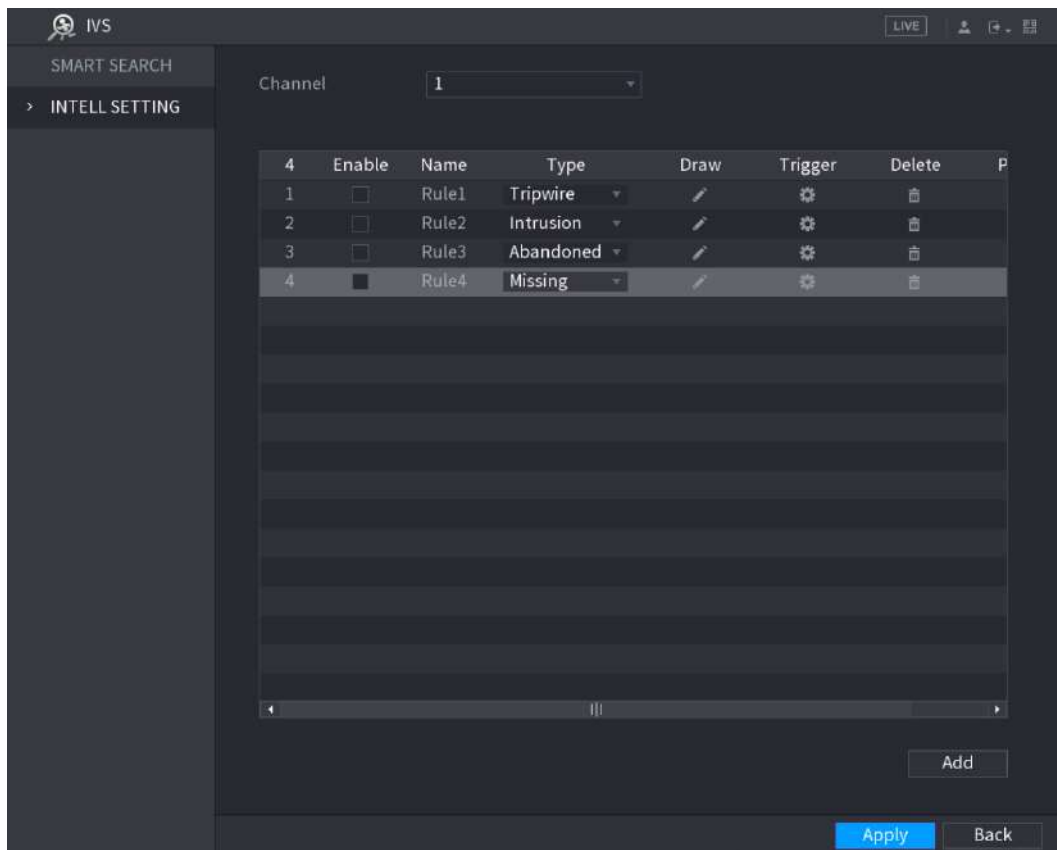

Figure 5-145
Step 1 On the rule line that you added, in the **Type** list, select **Missing**. See Figure 5-145.